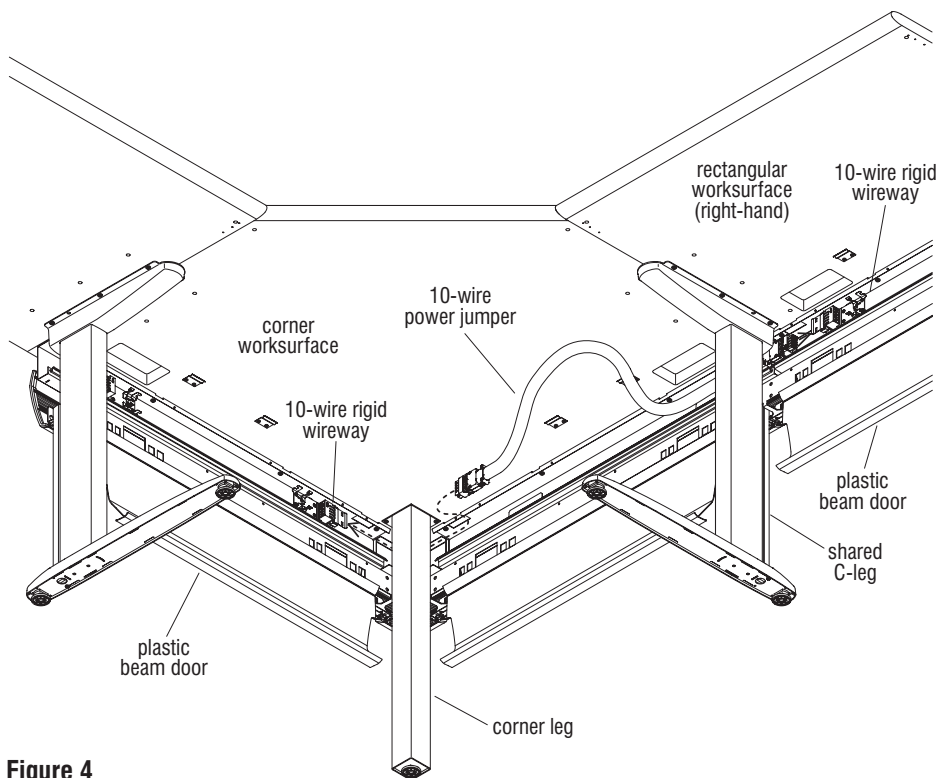

Figure 4
1. Un-clip and open plastic beam doors on each side of corner leg and under right-hand rectangular worksurface. 10-wire rigid wireways are located in the beam at the left-hand side of the corner worksurface and under the right-hand rectangular worksurface (Figure 4).
2. Route the 10-wire power jumper behind the corner leg and plug it into the rigid wireway under the corner worksurface. Route the other end of the connector behind the shared C-leg and plug it into the rigid wireway under the right-hand worksurface (Figure 4).